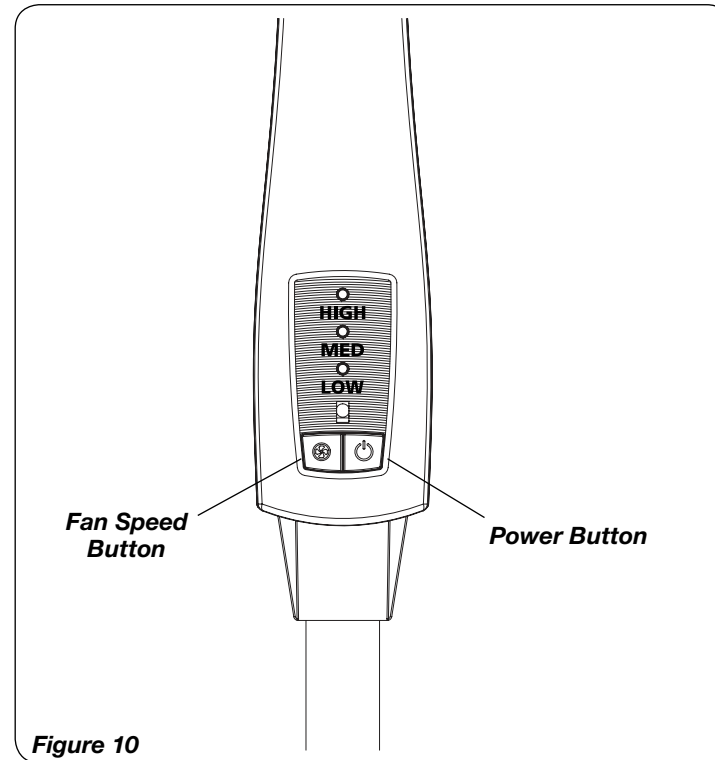
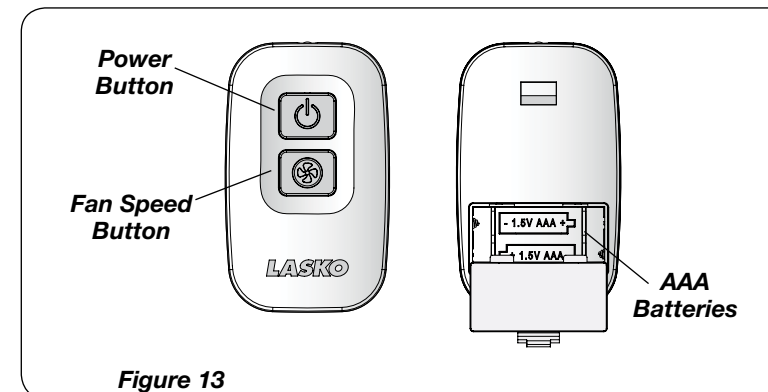

Figure 10
Figure 13
This Fan may be operated by the Manual Controls located on front of the unit (as shown in **Figure 10**) or by the Remote Control (shown in **Figure 13**).
1. Install batteries (not supplied) as shown in *Figure 13*. The battery is type “AAA”.